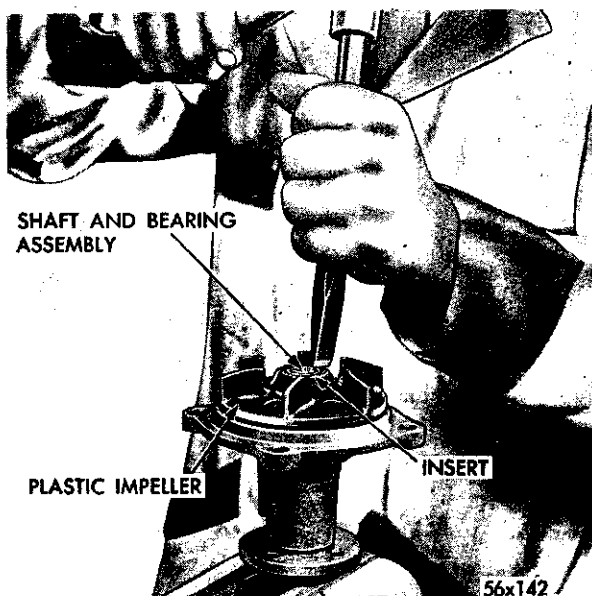

Fig. 4—Removing the Plastic Impeller
(1) Support the pump body on the hub and remove the impeller by breaking the plastic away from the metal insert, as shown in Figure 4.
(2) Remove the impeller metal insert using a chisel and hammer.